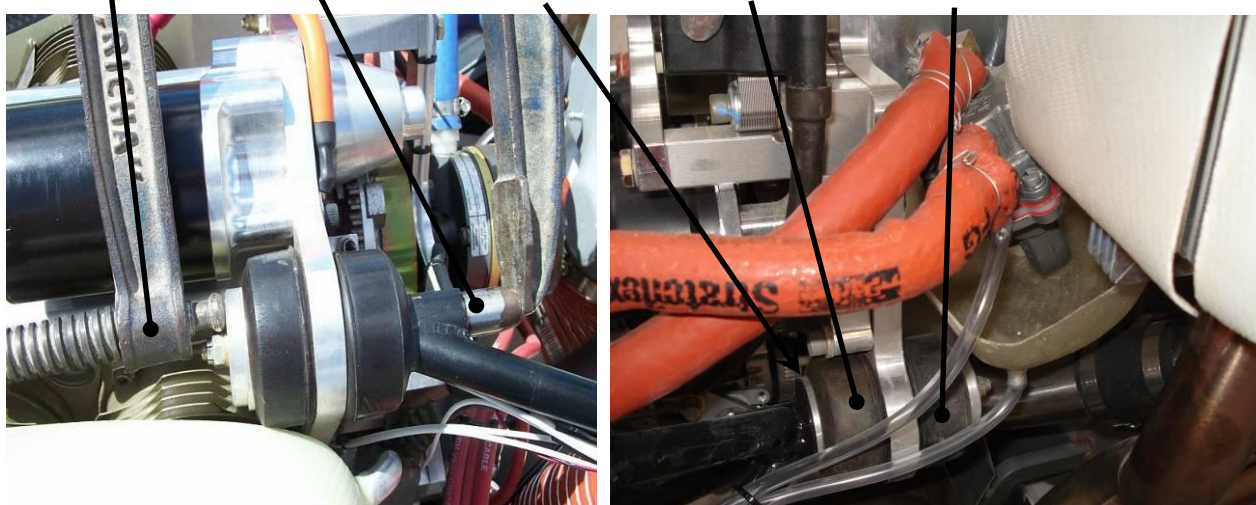

Figure 43 Upper & Lower Engine Mount Detail
- To place the nuts on the mount bolts the rubbers must be compressed. Do this by using a deep reach socket inside the engine mount pins & clamping the rubber mount assembly using a G-clamp with the swivel taken off the ball. See Figure 43. Start nuts on both upper mount bolts.
- Connect the fuel line to fuel pump (Refer to Figure 43). Ensure the fireproof sleeve is in place.
- Ensure that the fuel overflow line is in place, and secured to vent overboard. This is the small, clear hose shown leading from the fuel pump in Figure 43.